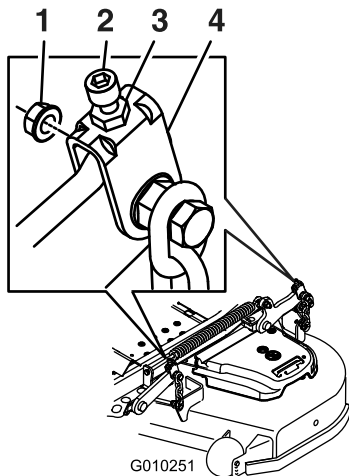

**Figure 88**
9. On both sides of the deck, measure from the level surface to the front tip of the blade (Position A). The measurement should read 3 inches (7.6 mm) (Figure 88).
15. On both sides of the deck, measure from the level surface to the back tip of the blade (Position B). The measurement should read 3 1/4 inches (8.3 cm) (Figure 88).